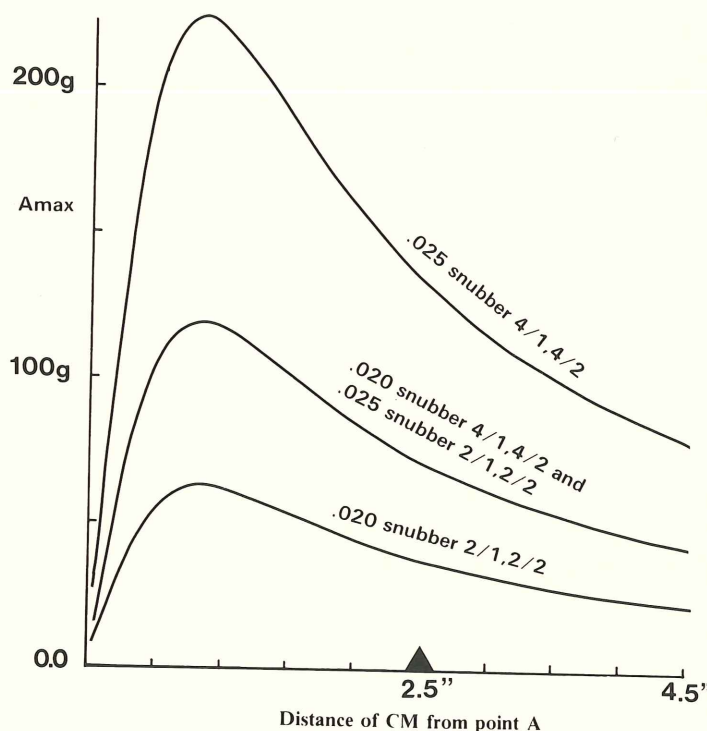

Figure 3. This graph shows the effects of shifting the gun's CM and the effects of various snubber types and positions.
The frequency equation variables that are easiest to change are the snubbers' spring constants, the number of snubbers, and the location of the center of mass relative to the cap end of the crt. *Figure 3* describes the effect on the maximum acceleration of shifting the center of mass (CM) and varying the number, size and type of snubbers front and rear for a 492 crt gun with the mass of the gun assumed constant.